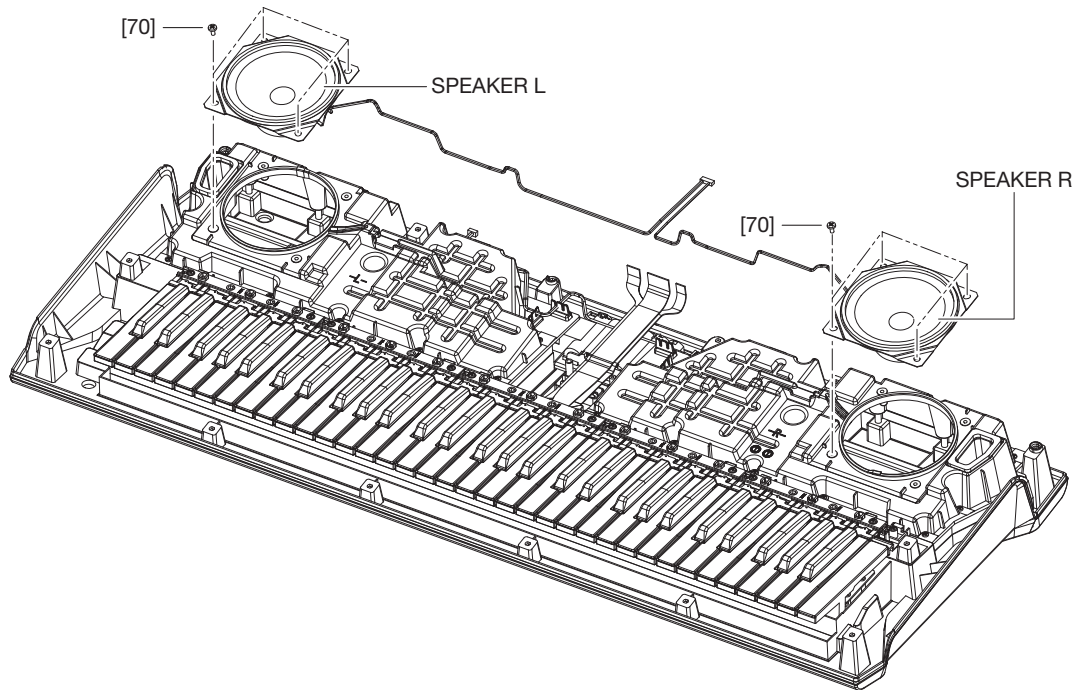

Fig.8
2. Remove the 4 screws marked [70]. The speaker can then be removed. (Fig.8)